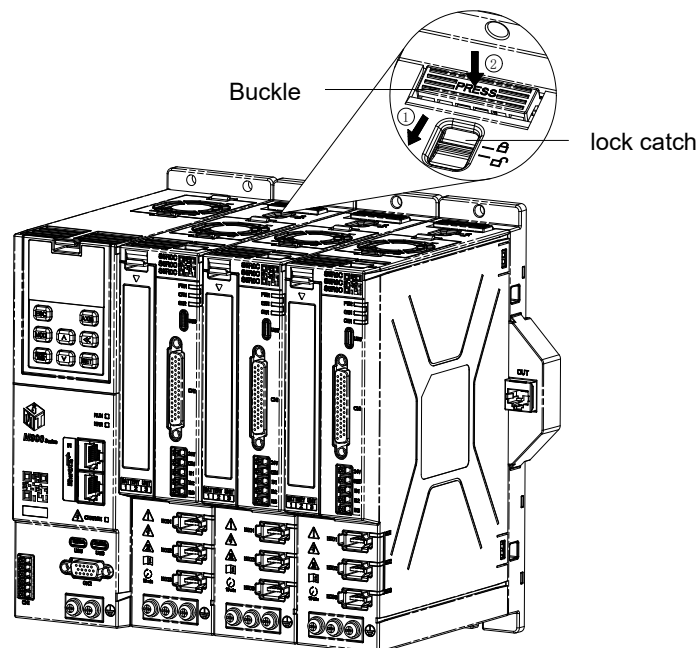

Figure 4-8 Unlock the lock buckle and press the bottom plate buckle
1. As shown in Figure 4-8, move the lock buckle on the top of the drive module to the "unlocked" position, and then press down on the top of the bottom plate until the buckle makes a slight "click" sound and is in a fixed state, indicating that the buckle has been released. At this point, the drive module can be disassembled.